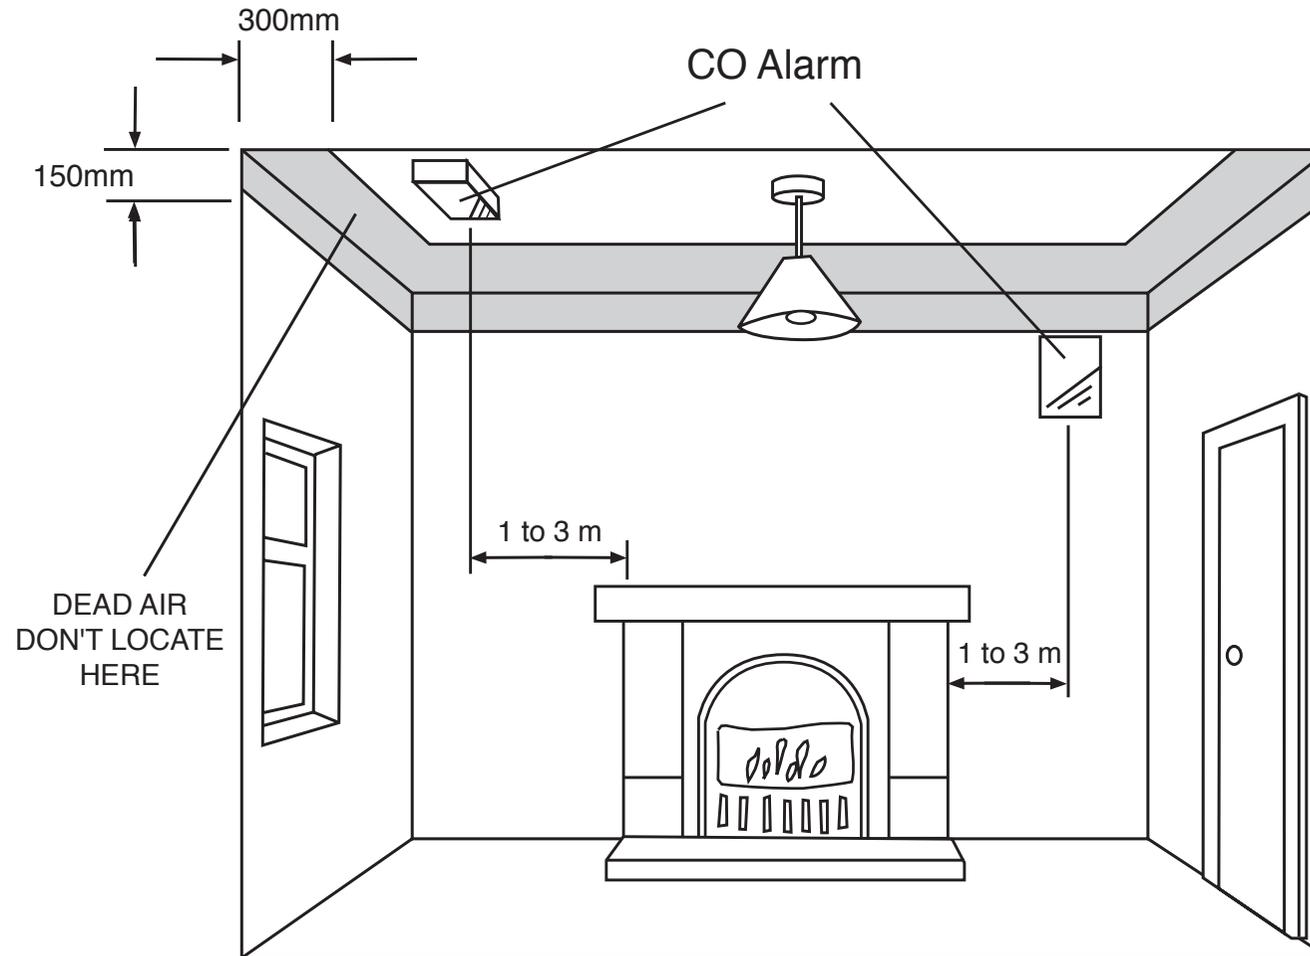

Figure 1. Location in room with a fuel burning appliance
3.3 IF LOCATING THE CO ALARM IN A ROOM WITH A FUEL BURNING APPLIANCE (see *Figure 1*)
The unit can be tested with CO by using one of the kits that comes with CO either in a glass phial or aerosol can. Follow the instructions on the kit but be sure to press the Test/Hush button to speed up the CO sampling **directly** after you expose the unit to the CO. It is best if possible to inject the CO gas into the gas entry holes (see *Figure 1*). When it senses the CO it will give 3 beeps and the red light will flash as per Table B. It then automatically resets to normal mode. (If unit fails to respond, press the Test/Hush button again as gas can take some seconds to enter sensor).
- (1) Disconnect the mains supply to the CO Alarm circuit at the distribution/fuse board.
- (2) Remove tamperproofing screw if fitted (see *Figure 1*).